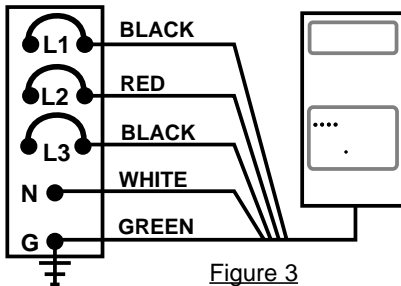

Figure 3
7. Connect the phase leads to the disconnect switch in the PG Series. Then connect them to the appropriate breaker or bus connections in the electric panel. NOTE: For HIGH LEG DELTA, make certain that the high leg is connected to the center switch position in the PG Series.(Refer to Figure 3)